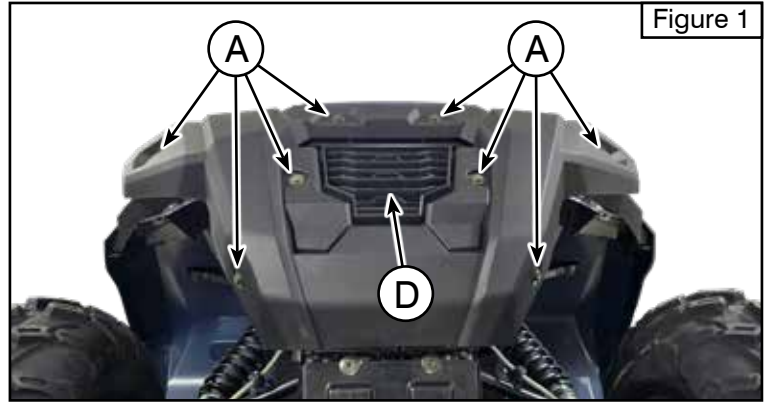

Figure 1
1. Remove the front plastic fascia by unscrewing 8x bolts (A) as shown in **Figure 1**.
8. Using a utility knife, carefully cut out the grill insert (D) shown in **Figures 1 and 6**.
9. Reinstall the front plastic fascia using the 8x bolts (A) previously removed in Step 1.